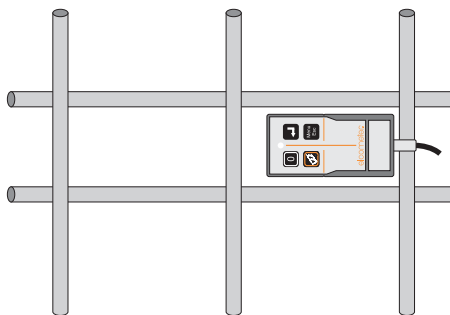

Figure 19. Zeroing
1. Hold the search head in contact with the concrete surface. The centre of the search head should be in the centre of the space between the bars as shown in Figure 19.